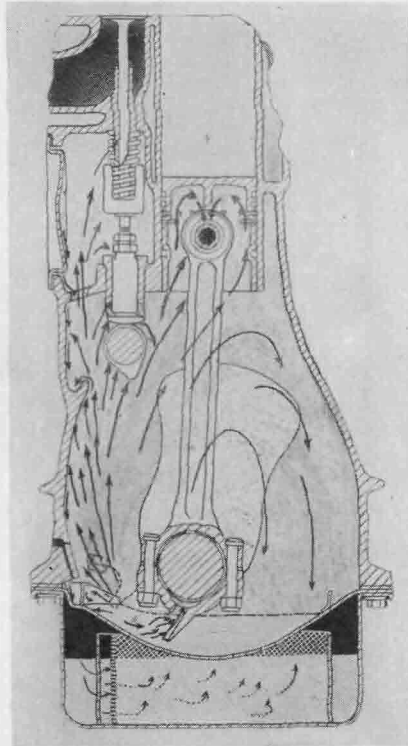

FIG. 11-10. Splash lubricating system used on an in-line engine. An oil pump maintains the proper level of oil in the tray under the connecting rods.
1. *Splash.* In the splash lubricating system, dippers on the connecting-rod bearing caps enter oil trays in the oil pan with each crankshaft revolution (Fig. 11-10). The dippers pick up oil for the
connecting-rod bearings and splash oil to the upper parts of the engine. The oil is thrown up as droplets and fine mist and provides adequate lubrication to valve mechanisms, piston pins, cylinder walls, and piston rings. In the engine shown in Fig. 11-10, an oil pump is used to deliver oil to the trays beneath the connecting rods.